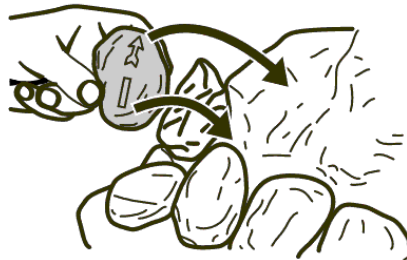

Figure 40. Third row "Coal I"
13. Hold coal 'I' upright with the arrow pointing to the top. Locate coal 'I' as shown in figure 40.